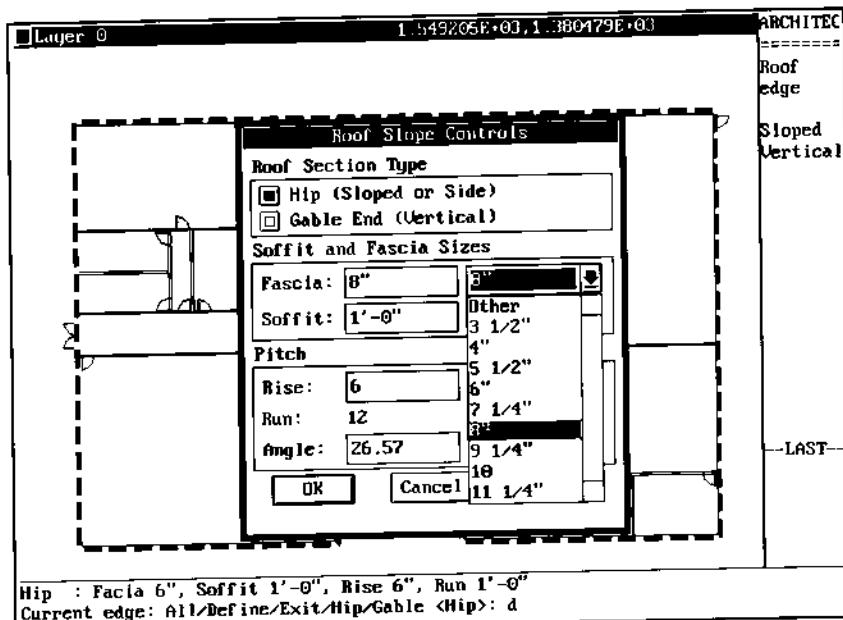

Figure 7.
5. Assign a Fascia height of 8" using the popup list as shown in Figure 7, or type it in the Fascia: edit box.